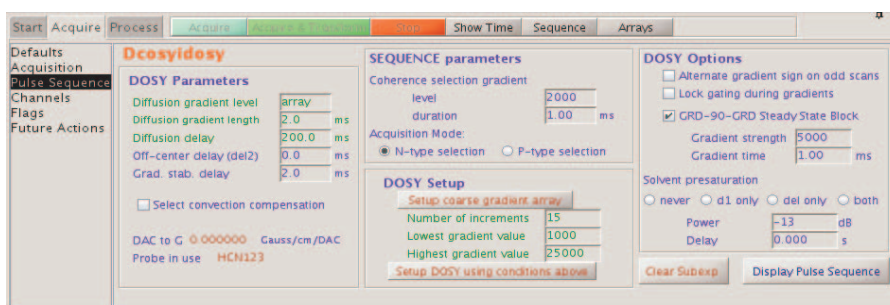

Figure 53. Absolute Value 3D-DOSY Pulse Sequence Panel
- 4. Click on the **"Setup DOSY using conditions above"** button in the Pulse Sequence panel (Figure 53)